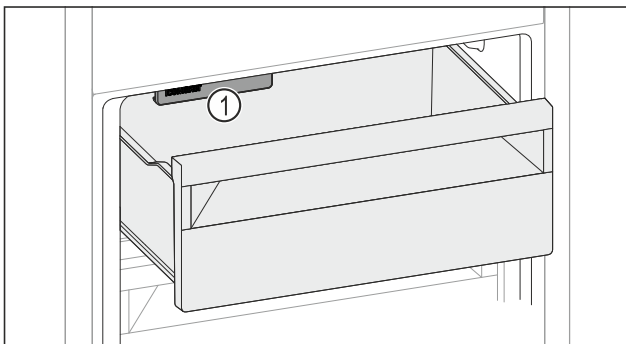

Fig. 69
- ▶ Pay attention to the IceMaker Fig. 69 (1).